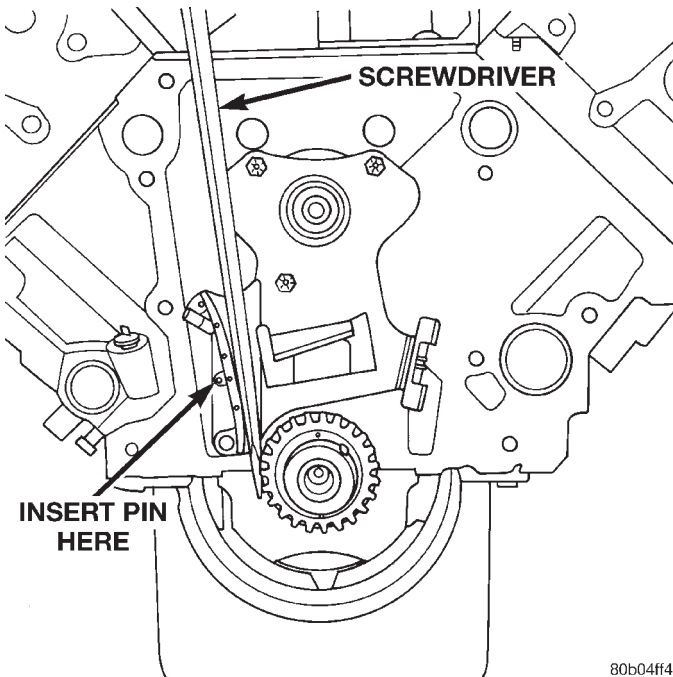

Fig. 32 Compressing Tensioner Shoe For Timing Chain Installation
(3) Hold tool in position with a distributor lock-plate bolt. This tool will restrict camshaft from being pushed in too far and prevent knocking out the welch plug in rear of cylinder block. **Tool should remain installed until the camshaft and crankshaft sprockets and timing chain have been installed.**
(4) Install timing chain tensioner. Torque bolts to 24 N·m (210 in. lbs.) torque.
(5) Compress tensioner shoe (Fig. 32) and install a suitable sized pin to retain shoe for chain installation.
(6) Place both camshaft sprocket and crankshaft sprocket on the bench with timing marks on an exact imaginary center line through both camshaft and crankshaft bores.
(7) Place timing chain around both sprockets.
(8) Turn crankshaft and camshaft to line up with keyway location in crankshaft sprocket and in camshaft sprocket.